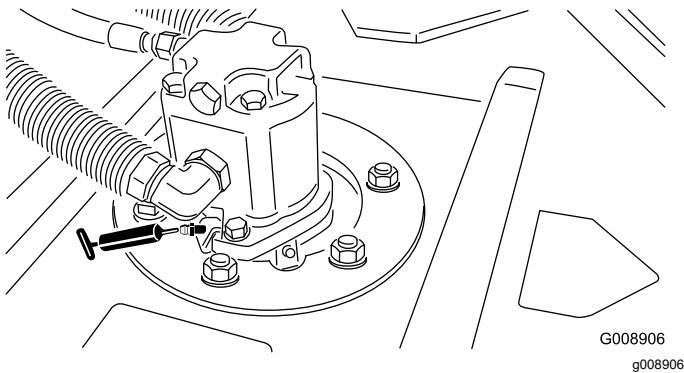

Figure 49
- Cutting unit spindle shaft bearings (2 per cutting unit) (Figure 49)